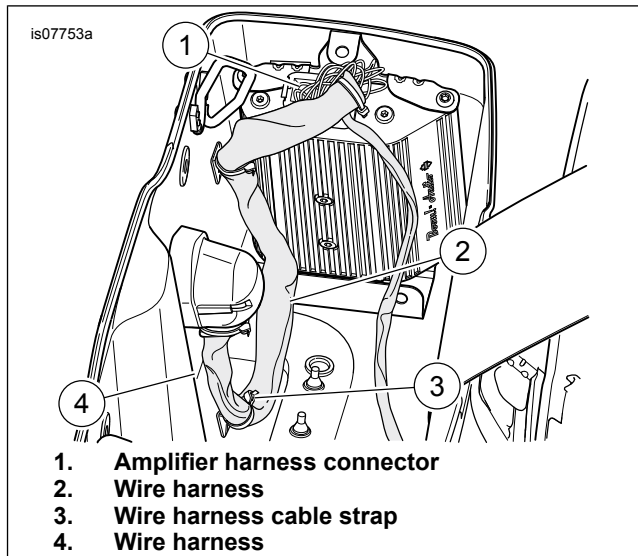

Figure 9. Inner Harness Routing
14. See Figure 9. Plug in connector [149] of the saddlebag harness to the top of the amplifier. Route the saddlebag side harness inside the left saddlebag. Clean the inside bottom and side surfaces of the saddlebag along the harness path with a 50-50 mixture of isopropyl alcohol and distilled water. Secure with cable straps and bases as shown.